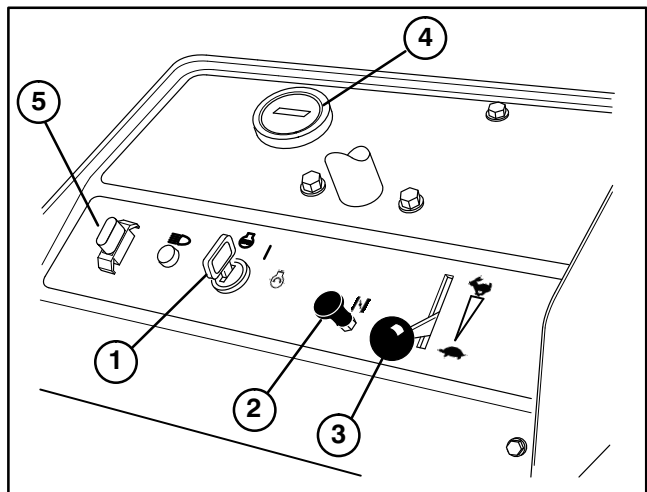

Figure 11
**Ignition Switch** (Fig. 11) – The ignition switch, used to start and stop the engine, has three positions: OFF, RUN and START. Rotate key clockwise — START position — to engage starter motor. Release key when engine starts. The key will move automatically to the ON position. To shut engine off, rotate key counterclockwise to OFF position.
**Choke Control** (Fig. 11) – To start a cold engine, close carburetor choke by pulling choke control out to ON position. After engine starts, regulate choke to keep engine running smoothly. As soon as possible, open the choke by pushing it downward to the OFF position. A warm engine requires little or no choking.
**Throttle Control** (Fig. 11) – Lever connects to and operates throttle linkage to carburetor. Control has two positions: SLOW and FAST. Engine speed can be varied between the two settings.
**Hour Meter** (Fig. 11) – Indicates the total hours of machine operation. The Hour Meter starts to function whenever the key switch is rotated to “ON” position.